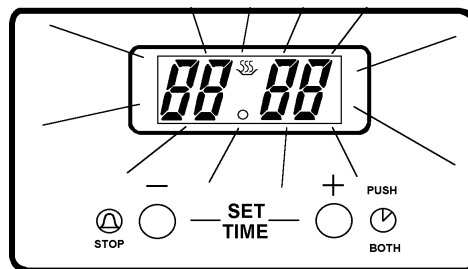

Fig. 2
Press buttons (1) and (2) together. The display will read 12:00. See Fig. 2.